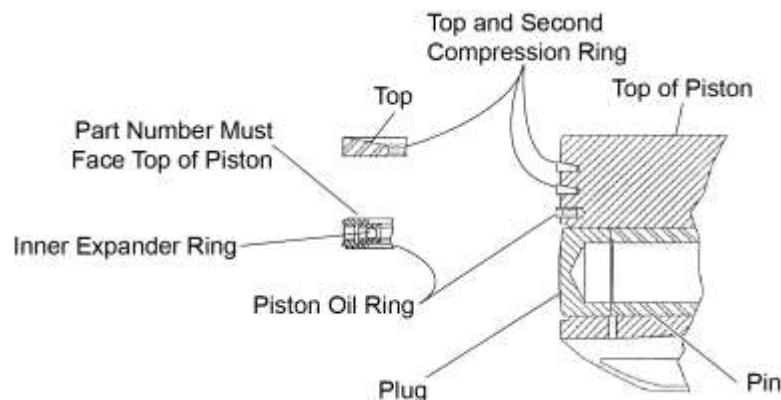

Figure 35
- A. Start from the top down, use the commercially available piston ring expander tool to remove the two top piston compression rings, the piston oil ring, and the inner expander ring (with the piston oil ring) (Figure 35).
- C. With the piston top side up on a workbench, install the inner expander ring with the part number facing toward the top of the piston in the first groove above the piston pin hole (Figure 35).
- E. Install the two top compression rings (Figure 35) with the word "Top" toward the top of the piston in the remaining top grooves. Orient the gaps in the two compression rings 180° from each other parallel with the piston pin hole.